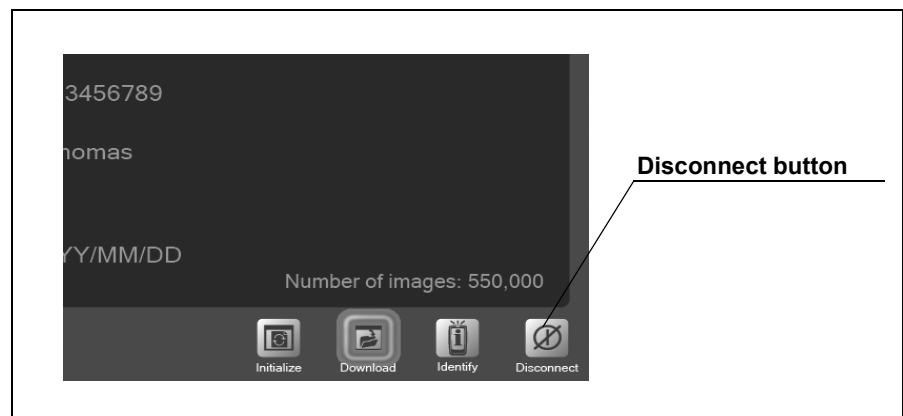

Figure 5.61
2. Click the [Disconnect] button (see Figure 5.61). The selected recorder unit is turned OFF.